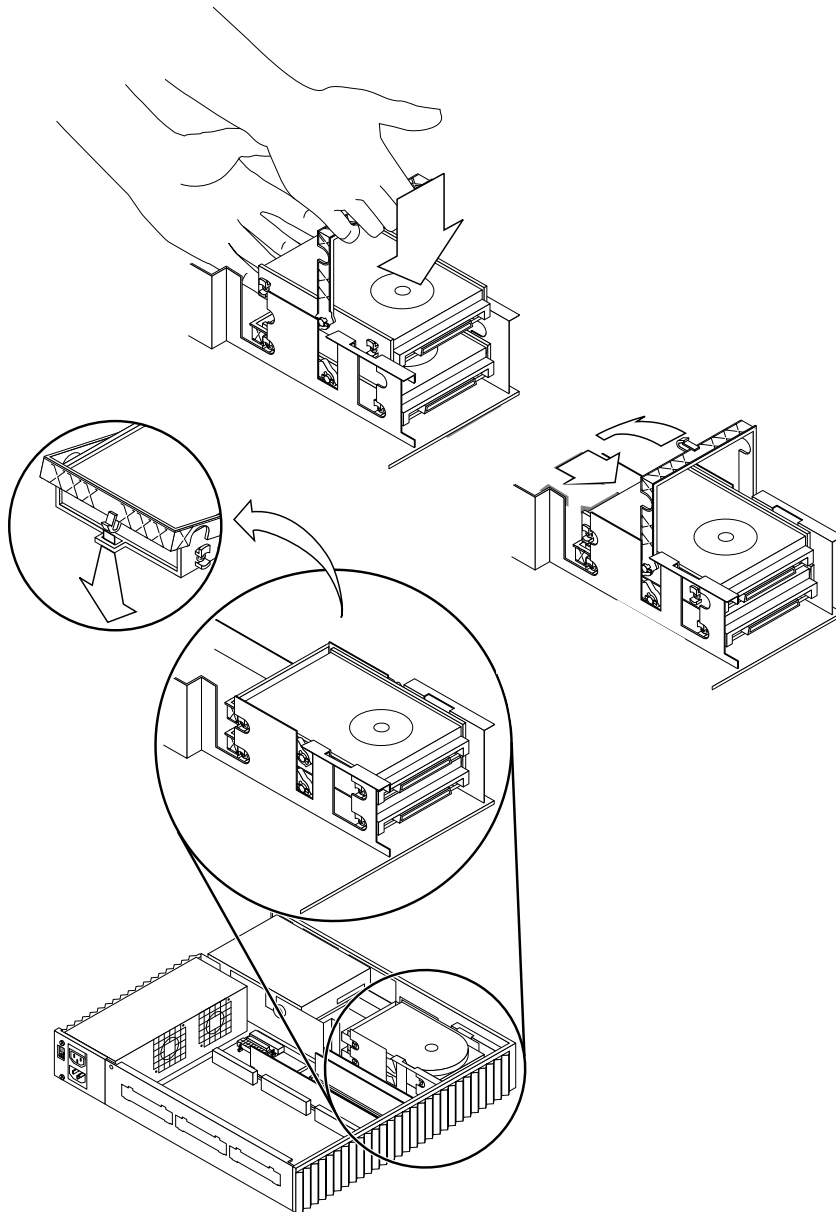

FIGURE 9-4 Installing a Hard Disk Drive
1. Position the hard disk drive as follows (FIGURE 9-4):